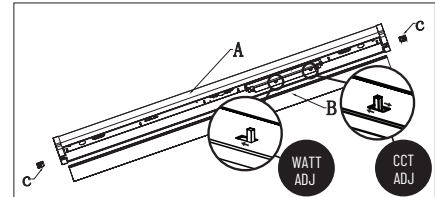

Figure 1
- a. Remove diffuser, slide small lid (PART C) out of the end cap of lamp base (PART A), then take out the diffuser (PART B). (Figure 1)
- b. CCT adjustment 3500/4000/5000K CCT (pre-set to 4000K). Wattage adjustment base on fixture size, 3 choices (pre-set to highest wattage). (Figure 1)